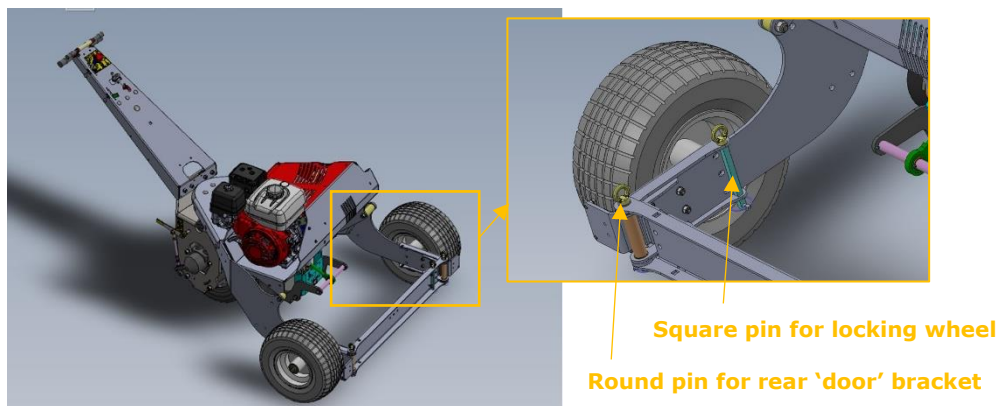

Figure 3: Rear wheel and rear 'door' bracket locking pins.
5.2.2 Place the rear wheels in the position beside the STrac 700 as shown in the image below. To do this the square pin needs to be pulled out. Next the wheels can be put in the position besides the machine and re-locked in place by the square pin see figure 3 below.